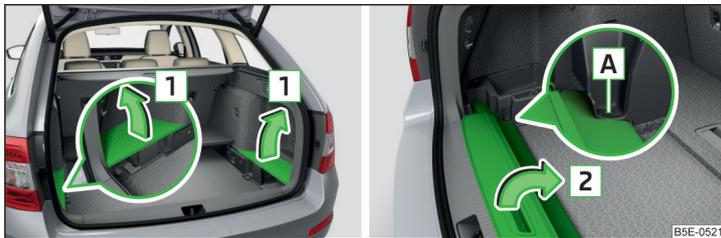

Fig. 118 Removing side covers / stowing foldable luggage compartment cover
- Remove the side covers in the direction of arrows **1**» Fig. 118.